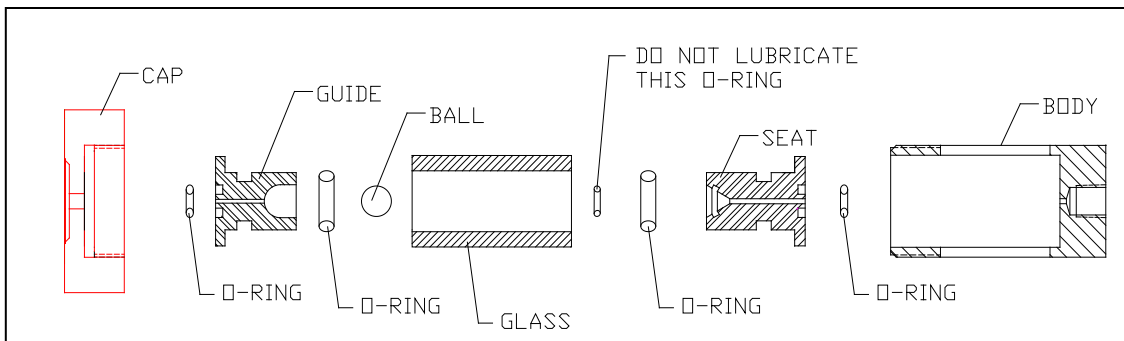

Figure 4
- 3.2.4 Replace all applicable seals (Parts 5, 1, 2, 3, and 9) in the device (also see Figure 4).